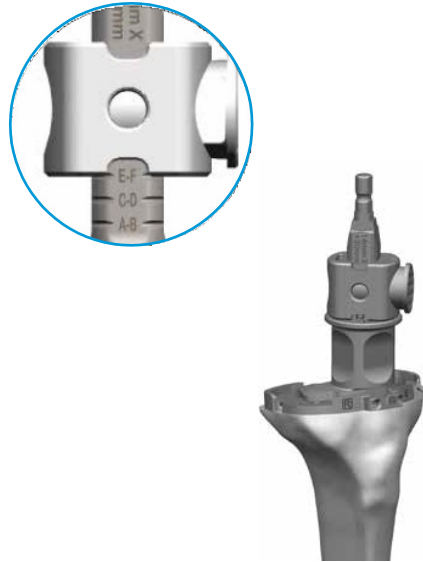

Figure 20
4. Using the Canary Medical Cemented Tibia Drill Bit 15.7 mm Dia. x 58 mm, position the cemented tibia drill stop collar in the proper position and drill through the cemented tibia drill guide until the cemented tibia drill stop collar contacts the cemented tibia drill guide (**Figure 20**).